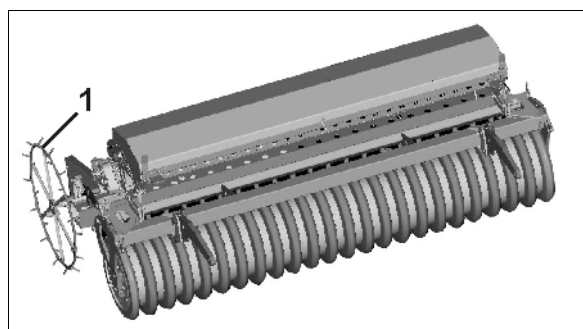

Fig. 28
6. Insert the star wheel and secure it using the lynch pin (Fig. 28/3).